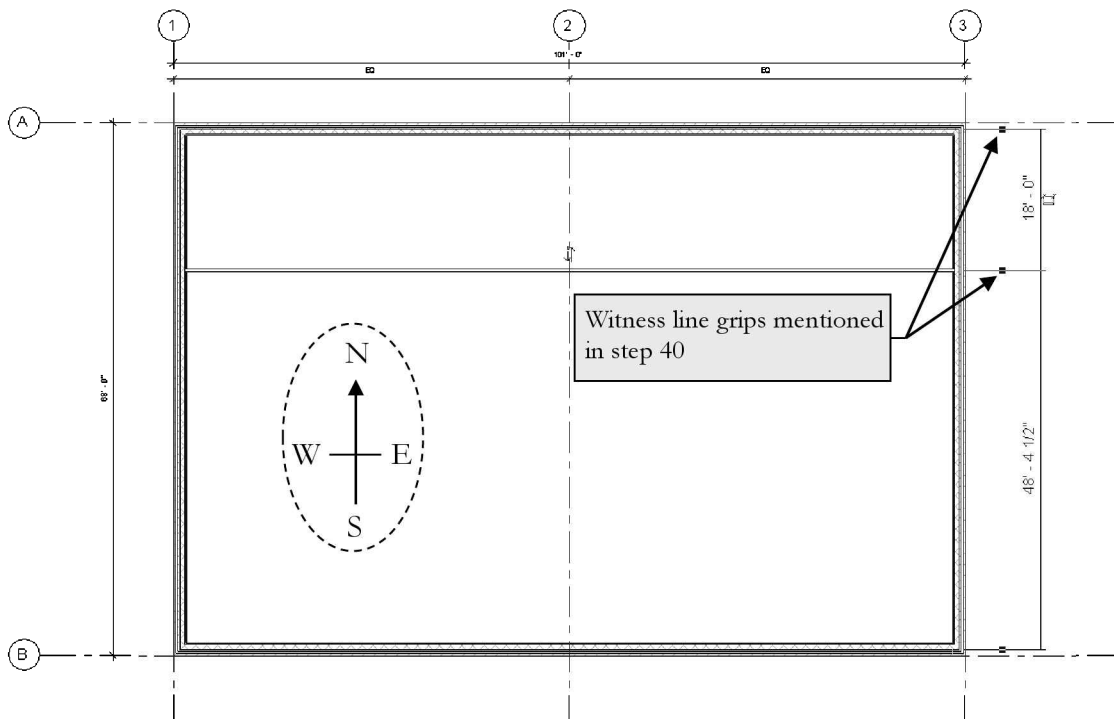
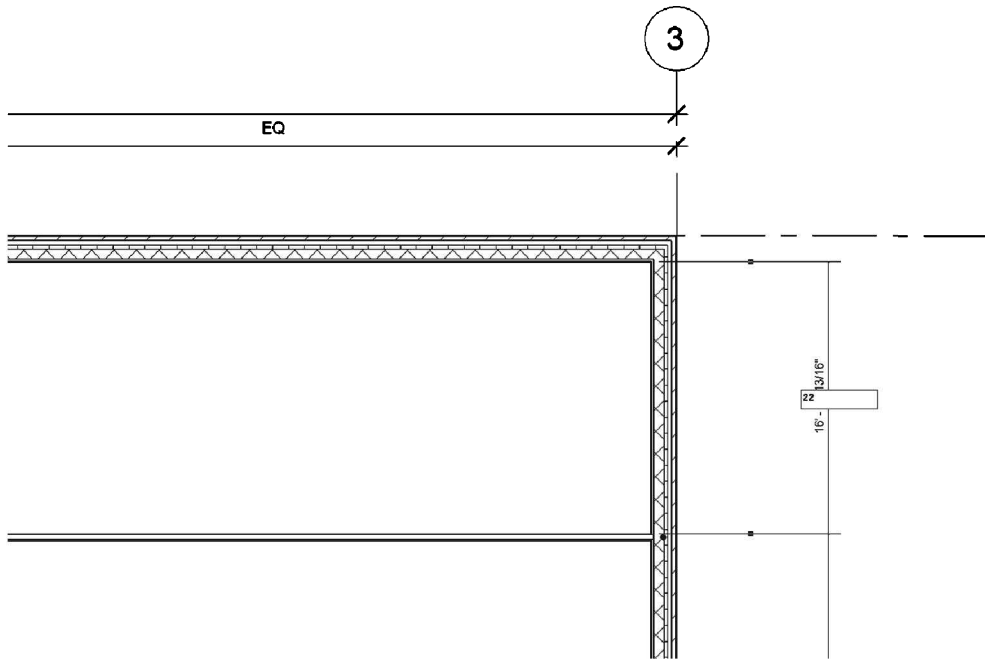

FIGURE 2-1.14 Adding interior walls – North indicator added for reference only
FIGURE 2-1.15 Repositioning interior wall via temporary dimensions
38. Draw a wall from the West wall (i.e., “vertical” wall on the left) to the East wall (on the right). See Figure 2-1.14.
39. Click the **witness line grips** (see Figure 2-1.14) until the “clear” space of the room is listed (see Figure 2-1.15).
40. Now click the blue text of the temporary dimension, type **22**, and then press *Enter* (Figure 2-1.15).